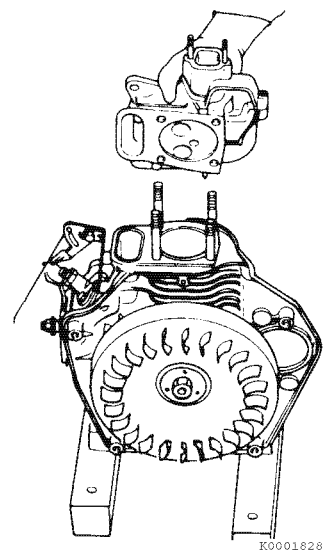

Figure 6-3
6. Remove the two cylinder head nuts and two bolts and remove the cylinder head (**Figure 6-3**). Discard the cylinder head gasket. Place the cylinder head on a protected work surface to prevent damage to the combustion surface.